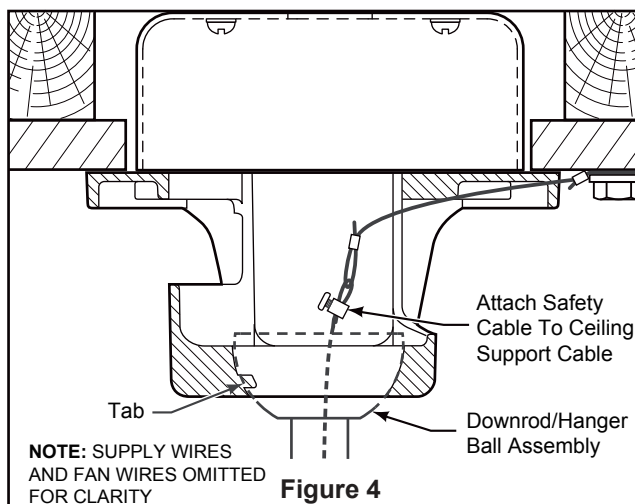

Figure 4
4. Carefully lift the fan and seat the downrod/hanger ball assembly onto the hanger bracket that was just attached to the outlet box. Be sure the groove in the ball is lined up with tab on the hanger bracket. (Figure 4)
5. Attach the safety cable to ceiling support cable. Slide cable clamp and washer onto safety cable (from fan). Place the end of cable through the loop of ceiling support cable. Pull as much cable through loop as possible. Feed end of cable into clamp hole and firmly tighten screw. (Figure 4)
3. Connect green wires from hanger bracket, hanger ball and ground from supply using wire connector. Connect black wire from receiver unit marked "AC IN L" to black supply wire using wire connector. Connect white wire from receiver unit marked "AC IN N" to white supply wire using wire connector. Connect white wire from receiver unit marked "TO MOTOR N" to white wire from fan using wire connector supplied with receiver unit. Connect black wire from receiver unit marked "TO MOTOR L" to black wire from fan using wire connector supplied with receiver unit. Lastly, connect blue wire from receiver unit to the blue fan light wire using wire connector supplied with receiver unit. (Figure 4)